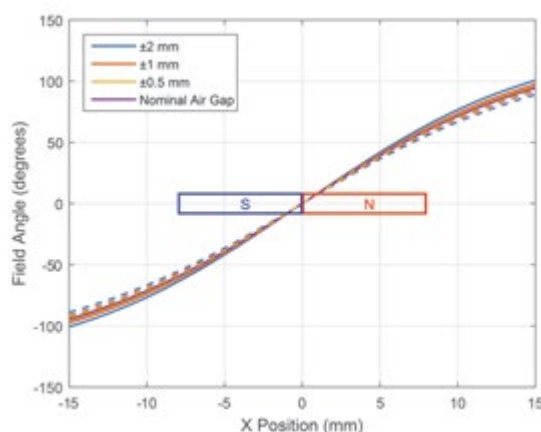

Figure 1b: Magnetic field angle plotted against position of a bar magnet for multiple air gaps
1. The field angle versus position is nearly identical with respect to the air gap over a typical tolerance, as seen in Figure 1b and Figure 2.